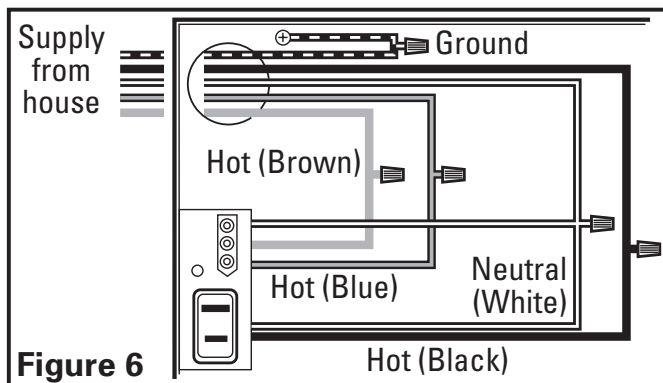

Figure 6
2. From where you have access to the fan's junction box, connect the white wire from the house to the two white wires from the fan. Connect one hot (black) wire from the wall switch to the black wire from the fan (this is the fan control). Connect second hot (blue) wire from the wall switch to the blue wire from the fan (this is the main light control). Connect the third hot (brown) wire from the wall switch to the brown wire from the fan (this is the night light control). Connect the ground wire (green or bare copper) from the house to the green wire from the fan (Figure 6). Use approved methods for all connections.